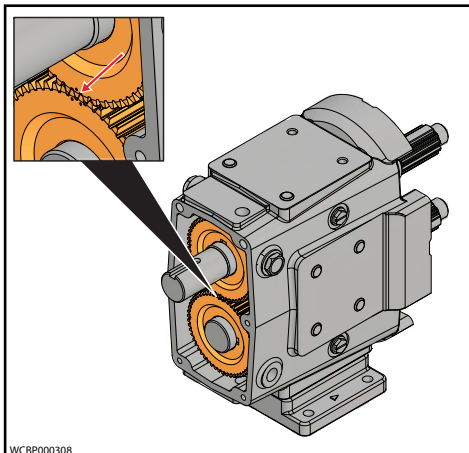

Figure 91 - Timing Gear Marks
3. Slide the short shaft gear onto the short shaft. The short shaft gear has two punch marks on the gear. Straddle the single punch mark of the spur drive gear with the two punch marks on the short shaft gear (Figure 91).